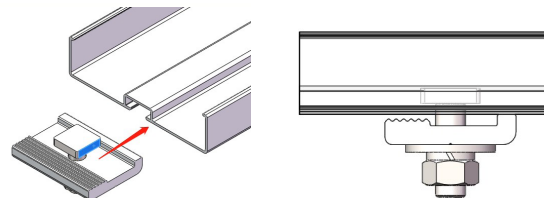

Figure 23
5.6.1 Slide two sets of Corrugated Clamps into the bottom of the Gutter, and do not fasten the bolts as shown in Figure 23.